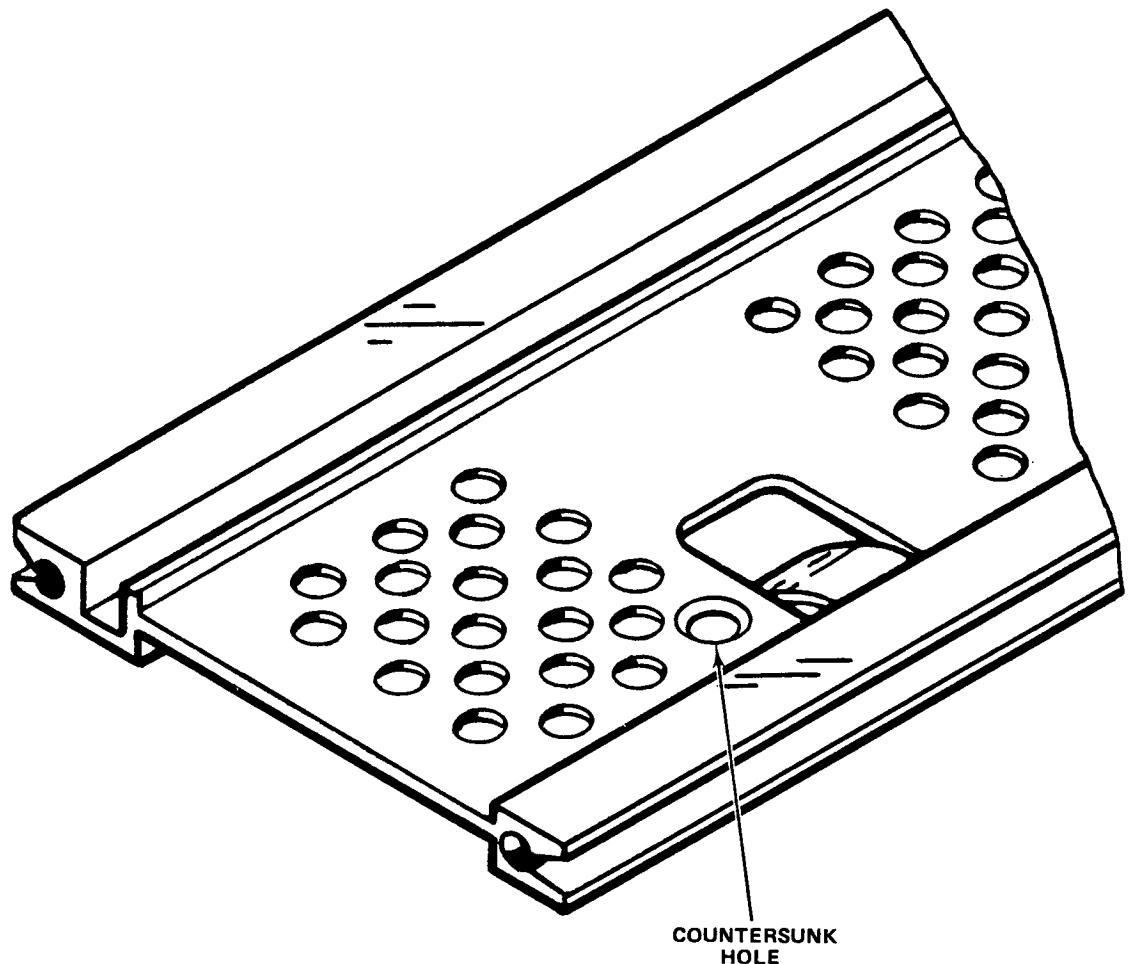

Fig. 2 - Partial chassis top showing countersunk hole.
- ( ) 7. Prepare the chassis top for the screw that secures Q758 by countersinking the hole shown in Fig. 2.